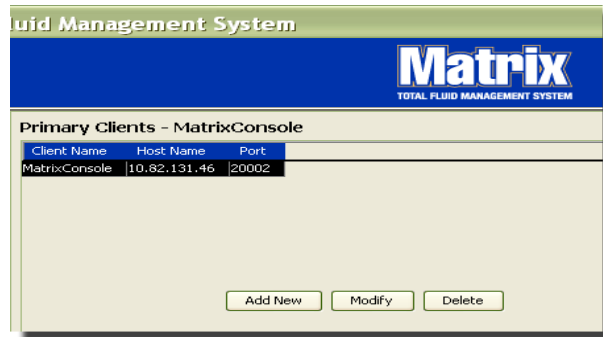

FIG. 79
- To add additional Primary Clients, select the Add New button (FIG. 79).